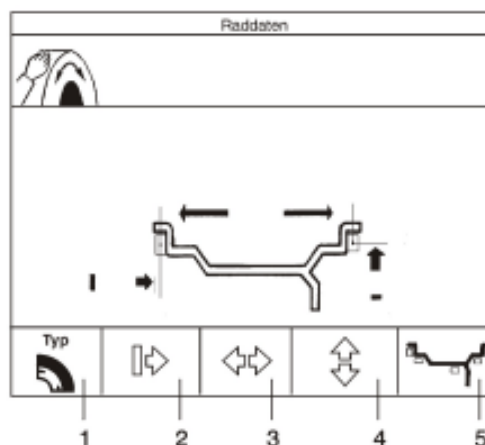

Fig. 44
- Starting from a screen as in Fig. 24, choose wheel type 3 using menu key 3. Press the ESC key to go back to the „Wheel data,, screen as in Fig. 44.
The „Wheel data,, screen as in Fig. 44 comes up.
- Press and hold the distance menu key (Fig. 44, Item 2) and at the same time rotate the clamped wheel.
press the rim width menu key (Fig. 44, Item 3) and rotate the wheel.
press the rim diameter menu key (Fig. 44, Item 4) and rotate the wheel.